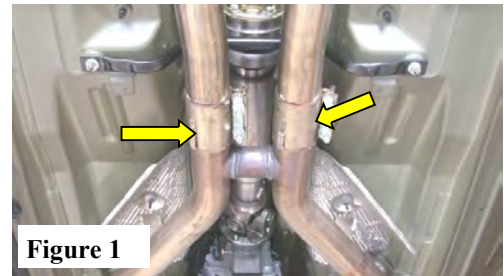

Figure 1
Do not discard band clamps as they will be used for installation of your new exhaust. (See Figs.1 & 2)
1. Refer to Fig.1 and measure/mark a line that is 14" from catalytic converter on the factory H-Pipe. Carefully make a straight cut on each pipe and remove factory H-Pipe.